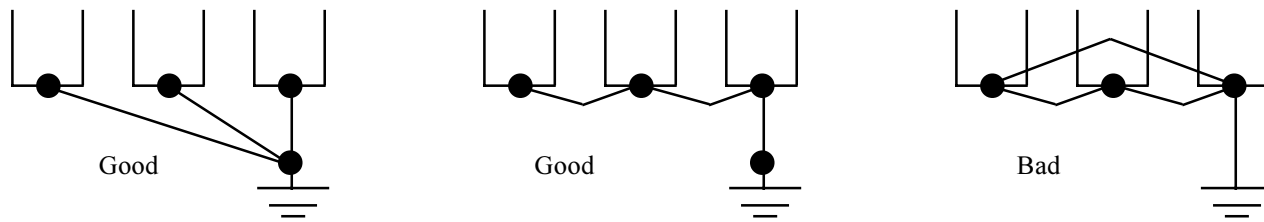

Fig. 3.2 Grounding of Multiple inverter.
- * Where several inverter units are used together all of them should be directly grounded to a common point. Please follow the grounding instructions shown in Fig. 3.2.